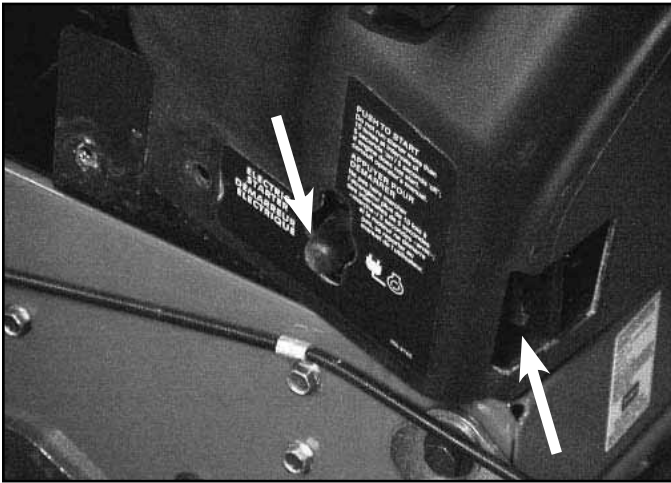

Fig 010
2. Begin in the left rear corner; slip the shroud over the electric start button and the plug terminal for the extension cord (Fig. 010). Then rotate the shroud clockwise into place.